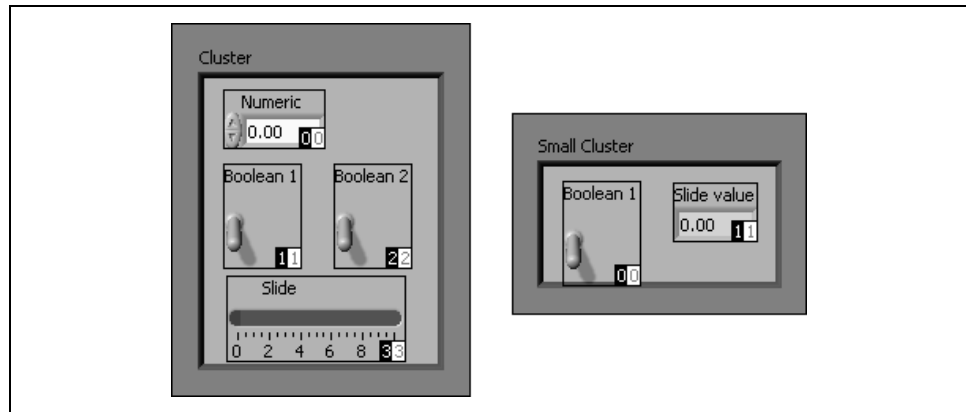

Figure 5-22. Cluster Orders
- Confirm the cluster order shown in Figure 5-22.
- ❑ Confirm the cluster orders shown in Figure 5-22. **Modified Cluster** should have the same cluster order as **Cluster**.
- ❑ Confirm the cluster orders shown in Figure 5-22.